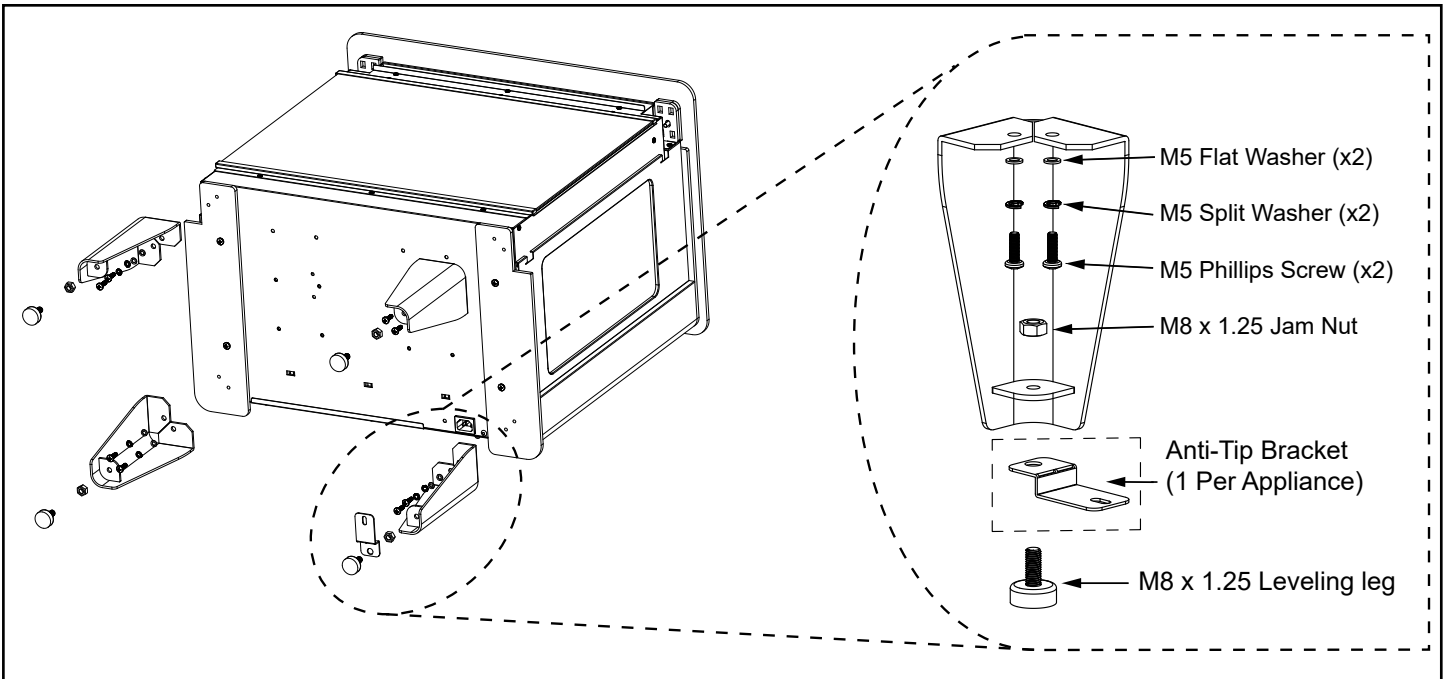

Figure 4.4 - Leg and Anti-Tip Bracket Attachment
2. Remove legs and hardware from Box 1 and install using the provided hardware as shown in Figure 4.4.
4. Install the anti-tip bracket on one of the four appliance legs as shown in figure 4.4.